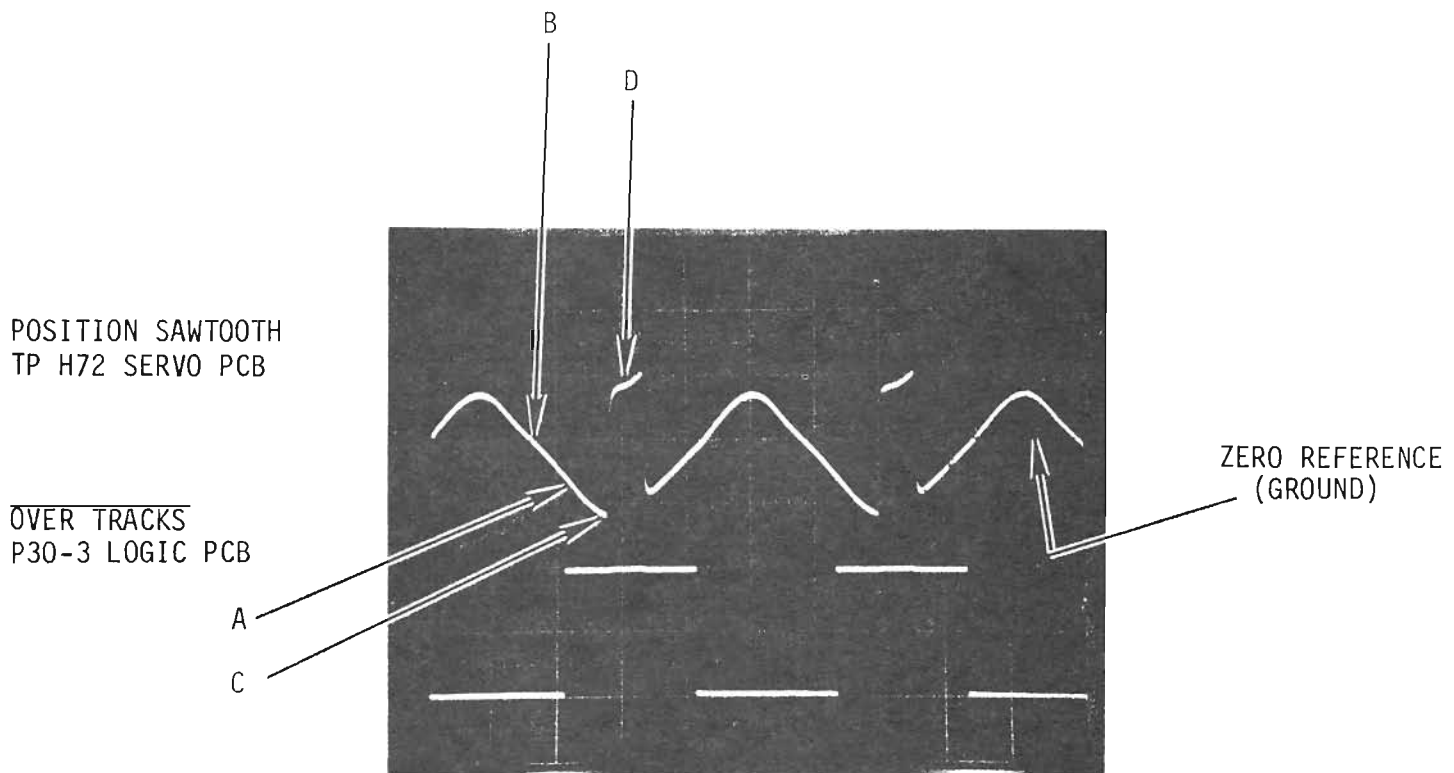

FIGURE 4-7 TRACK 0 SENSOR FINE ADJUSTMENT WAVESHAPES
4. Adjust the position of the Track \emptyset sensor until P30-3 (TP P74 for 12065-01 artwork) switches high at point "A" in the *Position Sawtooth* waveshape, Figure 4-7. Point "A" occurs at the vertical midpoint between points "B" (Reference point) and "C" (negative peak of *Position Sawtooth* waveshape). This may be seen more easily by superimposing the two waveshapes via re-adjustment of vertical position controls. When the adjustment is correct, pulse "D" will not exceed 1.5 ms in duration.